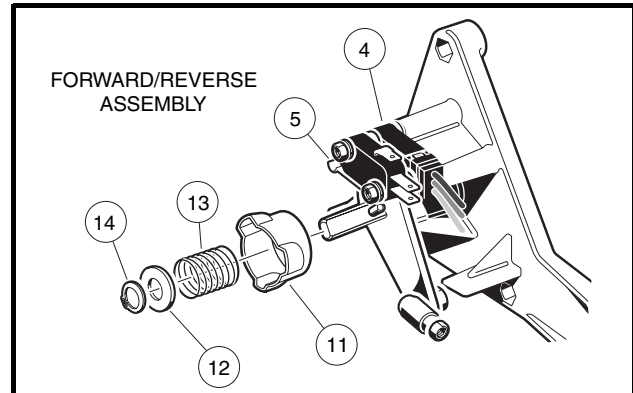

Figure 12-19 Neutral Lockout Cam
2. Remove the external snap ring (14) (**Figure 12-19, Page 12-17**).
3. Remove the plastic washer (12) and the spring (13).
4. Remove the cam (11).
1. Install the cam (11) (**Figure 12-19, Page 12-17**).
2. Install the spring (13) and the plastic washer (12).
3. Install the external snap ring (14) onto the shaft. Be sure the snap ring is installed in the groove on the shaft.